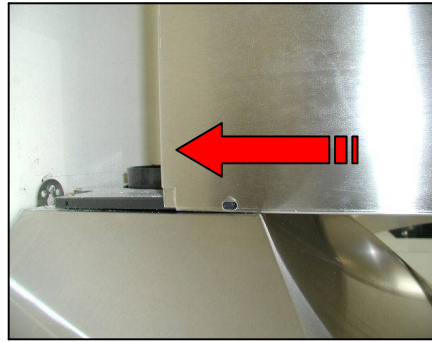

Figure 8
11. Slide up inner duct cover up 2 inches before sliding entire duct cover onto the hood. Refer to Figure 8.